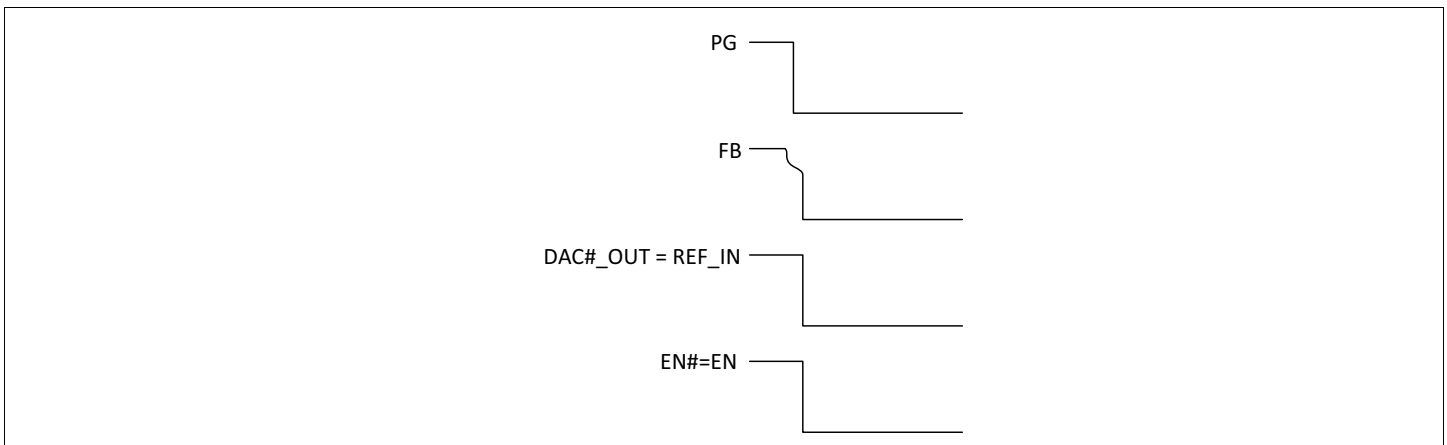

Figure 12: MxL7080 and MxL76500 Signals during MxL76500 Fault
During a fault shut down, the $EN\#$ and $DAC\#_OUT$ pins are all immediately pulled low. In Figure 12, the fault is initiated by the MxL76500 PG pulling low due an event on the regulator output (FB) which pulls it out of regulation.